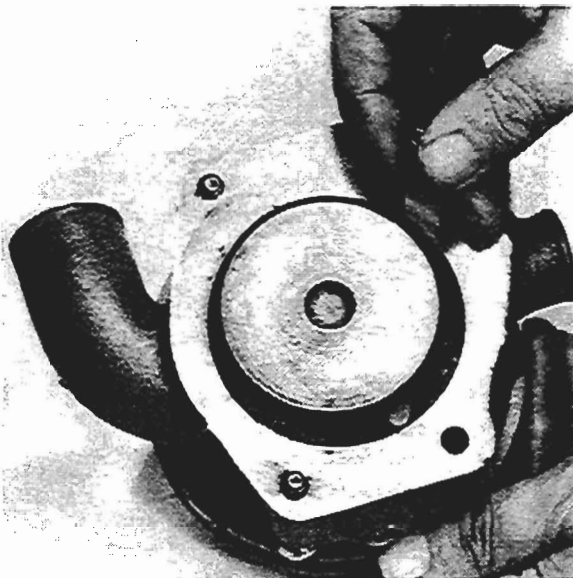

Fig. N5
1. With the shorter end of the water pump shaft to the front, press the shaft and bearing assembly (2) into rear of water pump (1) until the end of the bearing housing aligns with the front of the water pump body.
2. Fit thrower where separate, (4) and seal (5) with carbon face to rear of pump and flange against the inside face of water pump body.
3. Fit ceramic counterface (6) to shaft with ceramic insert towards seal.
4. With a support on the front end of the water pump shaft, press impeller (7), with blades inwards, on rear of shaft until there is a clearance of 0,25 mm (0.010 in) to 0,51 mm (0.020 in) between blades of impeller and pump body (see fig. N5).